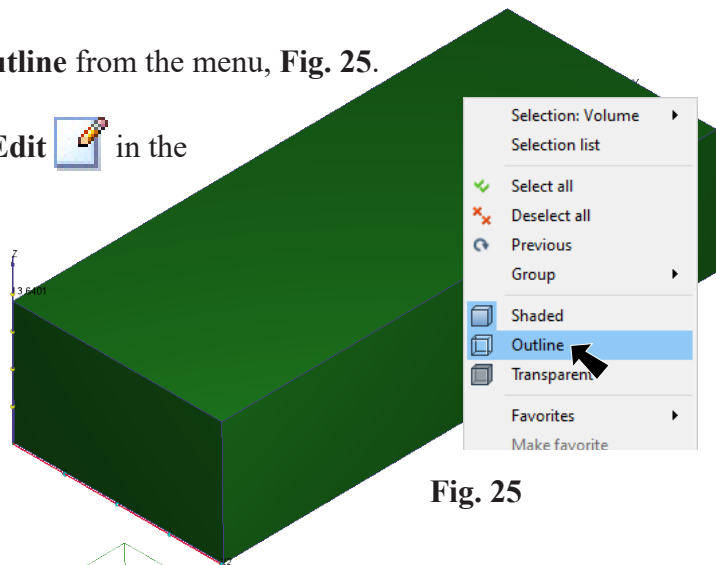

Fig. 25
Step 1. **Right click** the Tunnel and click **Outline** from the menu, **Fig. 25**.